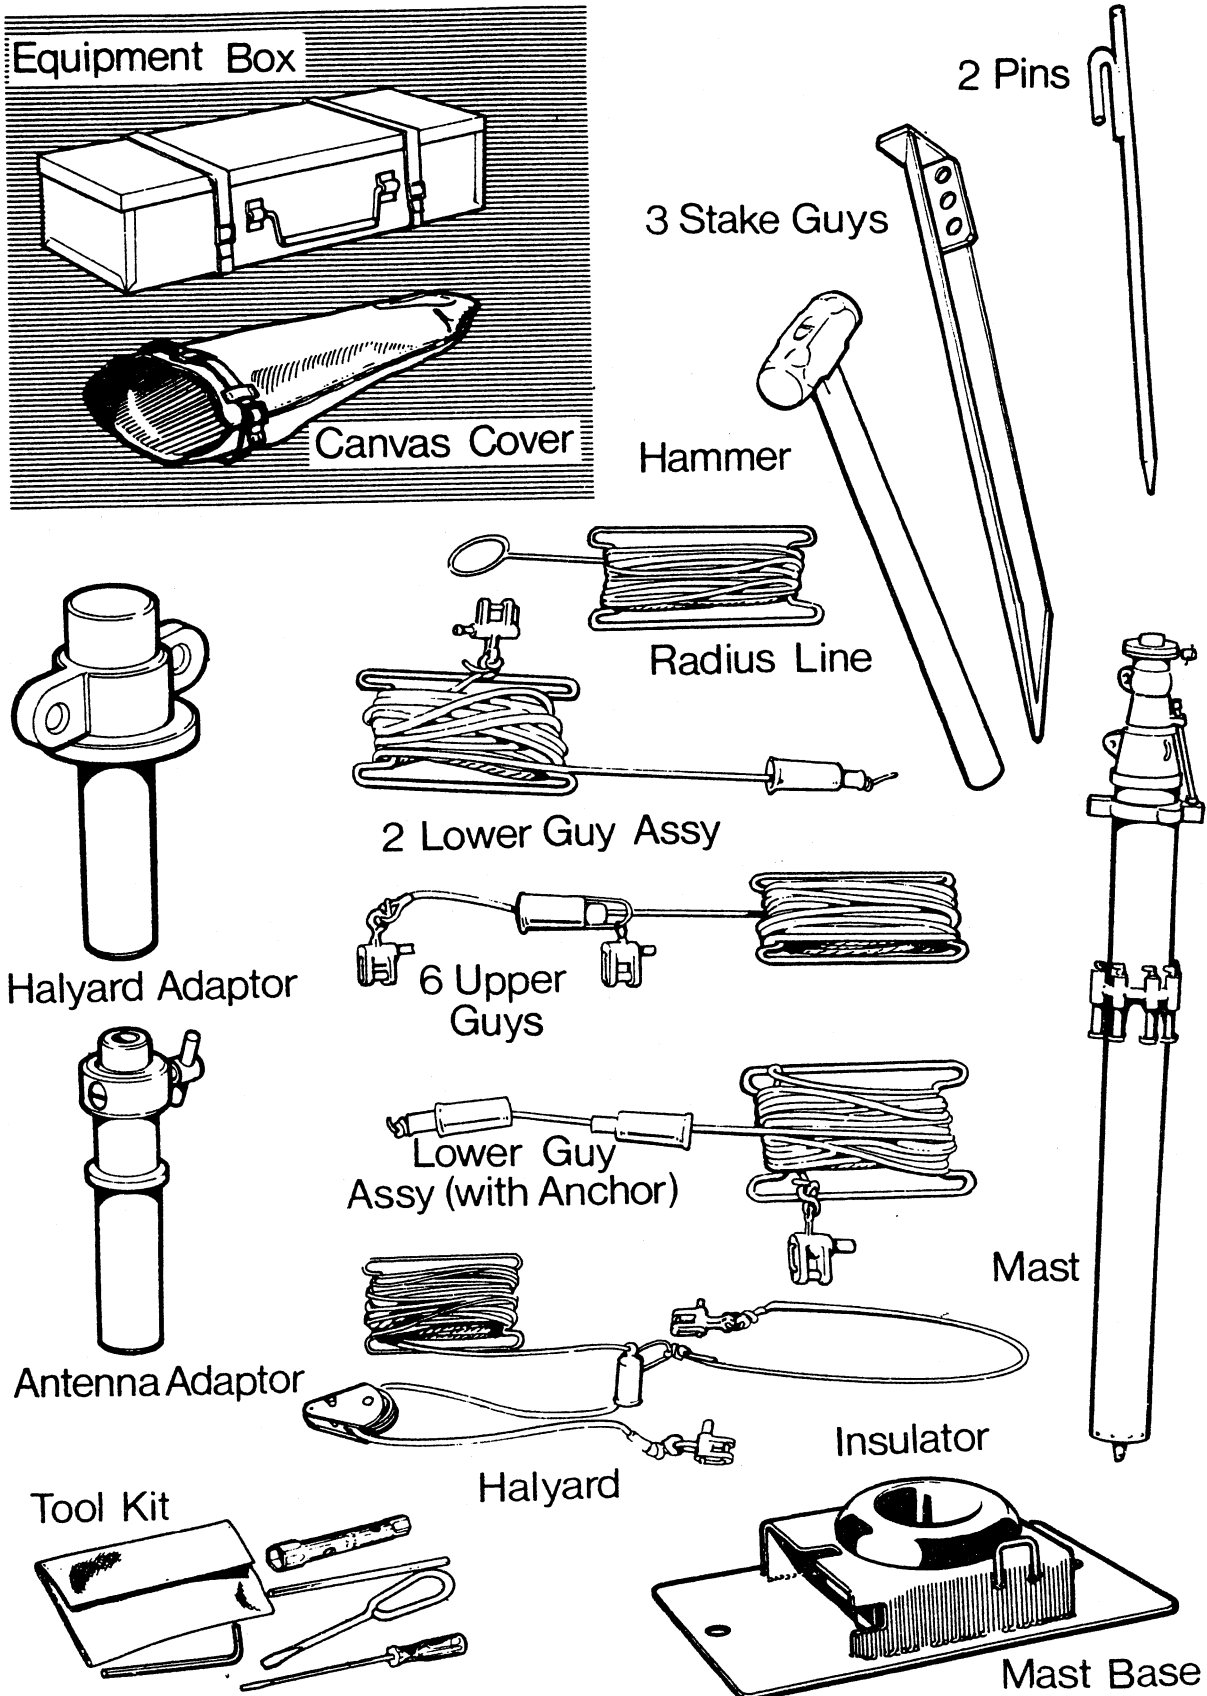

Fig 101.—12m Mast – Components
(1) Height retracted	1.8m
(2) Height extended	11.4m
(3) Weight of complete equipment	32.7kg
b. Components (Fig 101)